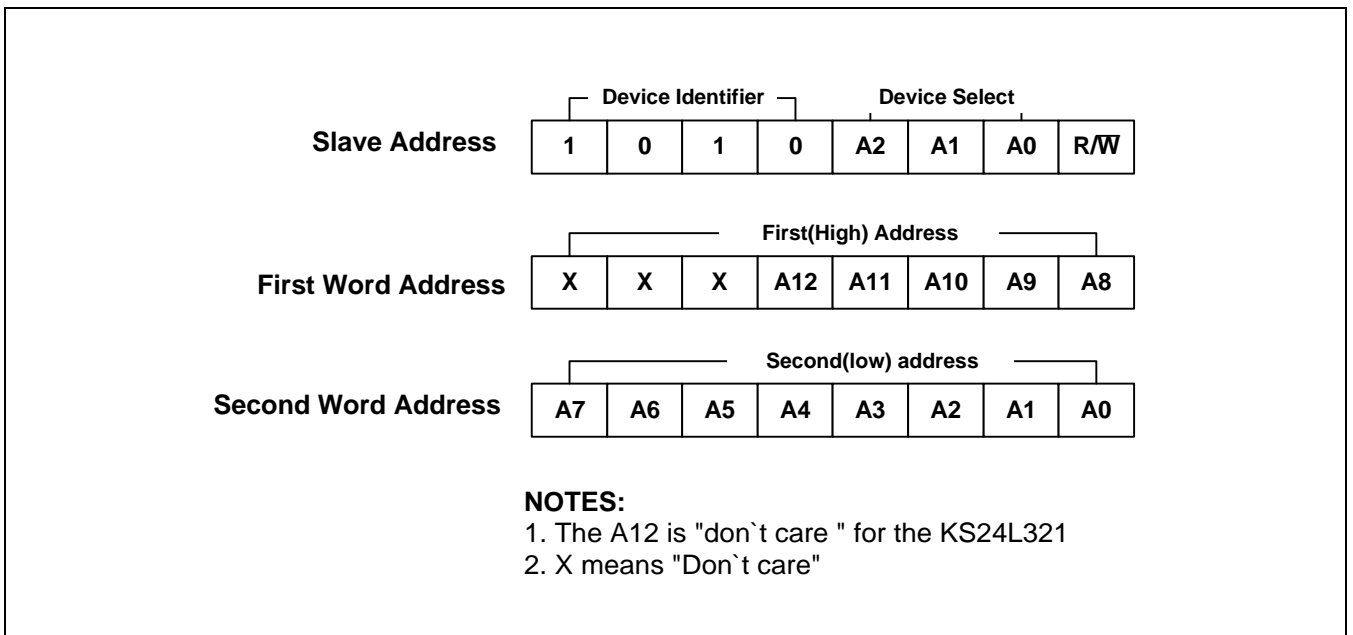

Figure 3-11. Device Address
- **Slave Address:** After the master initiates a start condition, it must output the address of the device to be accessed. The most significant four bits of the slave address are called the “device identifier.” The identifier for the KS24L321/641 is “1010B”. The next three bits comprise the address of a specific device. The device address is defined by the state of the A0, A1, and A2 pins. Using this addressing scheme, you can cascade up to eight KS24L321/641s on the bus (see Figure 3-11 below).